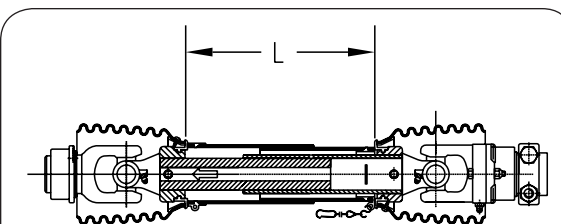

Fig. 4-33
1. Fully collapse PTO shaft and measure length “L” (Fig. 4-33).